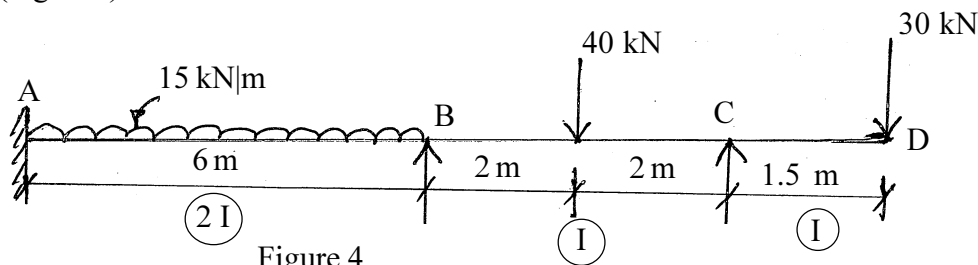

Figure 4
- b) Draw SFD and BMD for beam as shown in figure 4 using moment distribution method. (Figure 4). 8